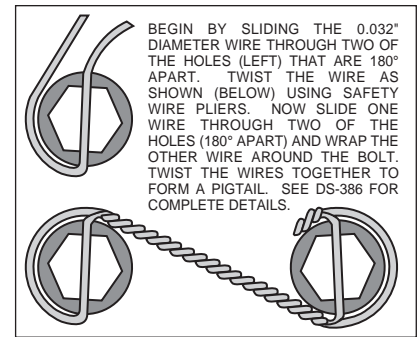

Figure 3. Safety Wire Diagram
- Apply red *Loctite*® 271 to bolt threads (3) before assembly of the caliper mounting bracket (1). Mount bracket (1) to dust face plate of spindle using washers (2) and bolts (3). Torque bolts (3) to 22 ft-lb. **NOTE:** Be sure the heads of the caliper bracket (1) insert nuts are facing outward toward the wheel.
- Install wheel studs (4) into the hub (5). Torque to 77 ft-lb. **NOTE:** There are two five lug patterns in the hub (5 x 4.50 and 5 x 4.75). Make sure of the correct hole pattern for the correct wheel application before installing studs into hub.
- Pack the large inner bearing cone (6) with high temperature disc brake bearing grease (available from your local auto parts store) and install into the backside of the hub (5).
- Install the grease seal (7) by pressing into the backside of the hub (5).
- Attach rotor adapter plate (8) to rotor (9) using bolts (10). Using an alternating sequence, apply red *Loctite*® 271 to the threads and torque bolts to 25 ft-lb. For an added measure of security, the bolts may be safety wired using standard 0.032 inch diameter stainless steel safety wire as shown in Figure 3. Please refer to Wilwood's data sheet DS-386 (available at www.wilwood.com/Pdf/DataSheets/ds386.pdf) for complete safety wire installation instructions. **NOTE:** Dished side of adapter plate (8) should face hub (5). The mounting tabs on the rotor (9) should face toward the hub as well and line up with the holes on the adapter plate (8).